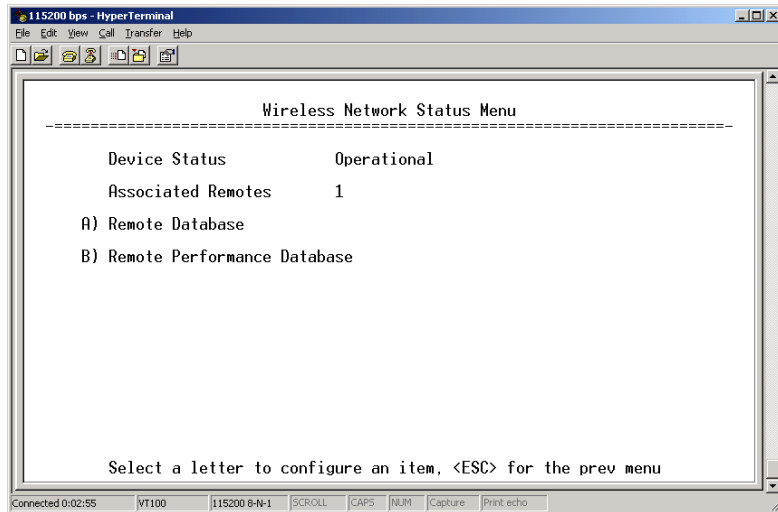

Figure 3-47. Wireless Network Status Menu (AP)
- **Wireless Network Status**—Current association state and MAC address of the Access Point. (See Figure 3-47 for details.)